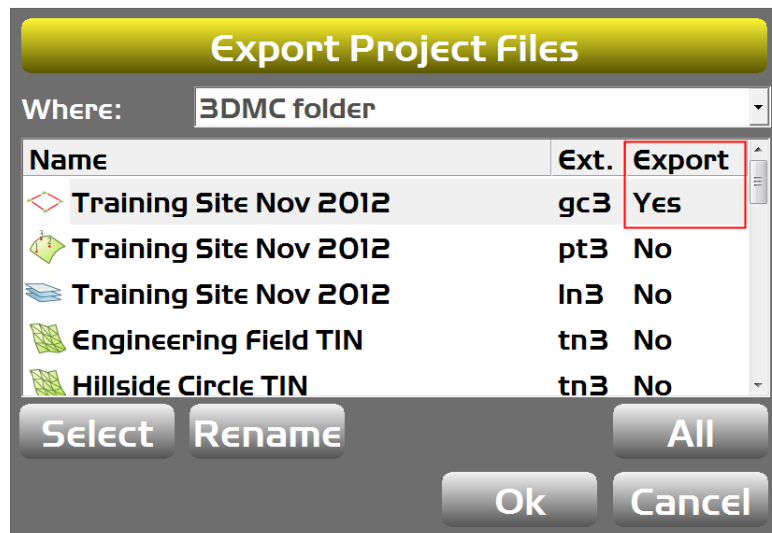

Figure 18: Select Location and Files to Export
3. Select the location from the **Where** drop-down list (Figure 18). This option allows you to select the location the file is being exported to.
4. Tap **All** to select or deselect files to export. You can also choose an individual file, and tap **Select** to change the **Export** option to **Yes** or **No** (Figure 18).